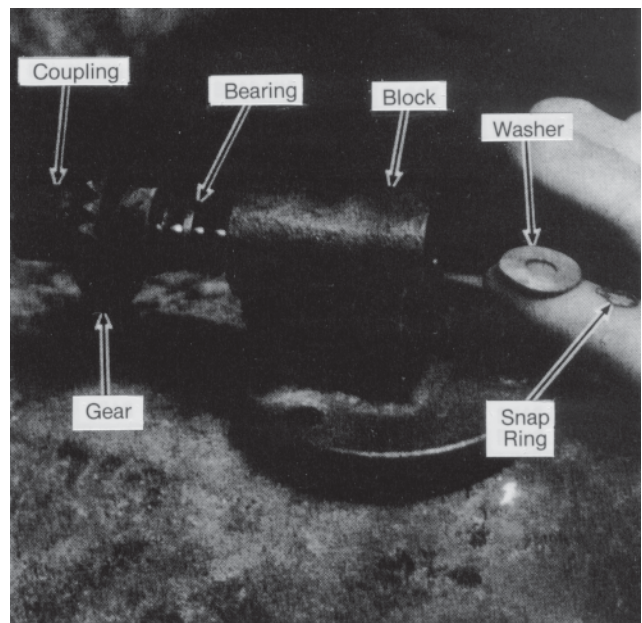

Figure 20 –Disassembly of Bearing Block
- Removing the snap ring and washer, Figure 20, allows the thrust bearing, gear, and drive coupling to be withdrawn from the block.